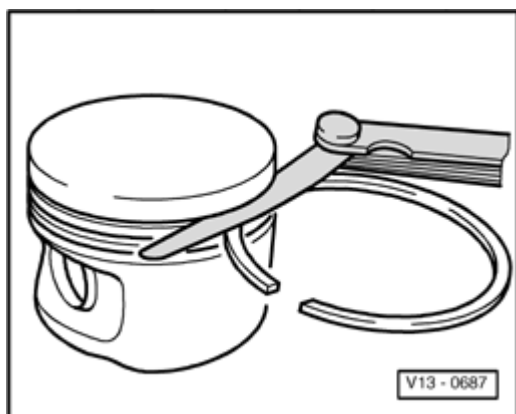

Fig. 2 Checking ring to groove clearance
- ◆ Checking ring to groove clearance : Fig. 2